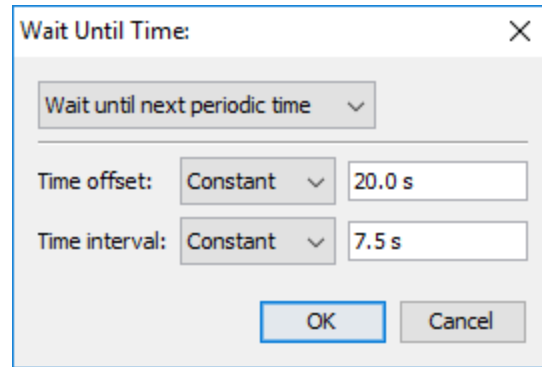

Figure 114. Wait Until Time dialog
2. Click the time to edit the value, which will show the **Wait Until Time** dialog as shown in Figure 114.